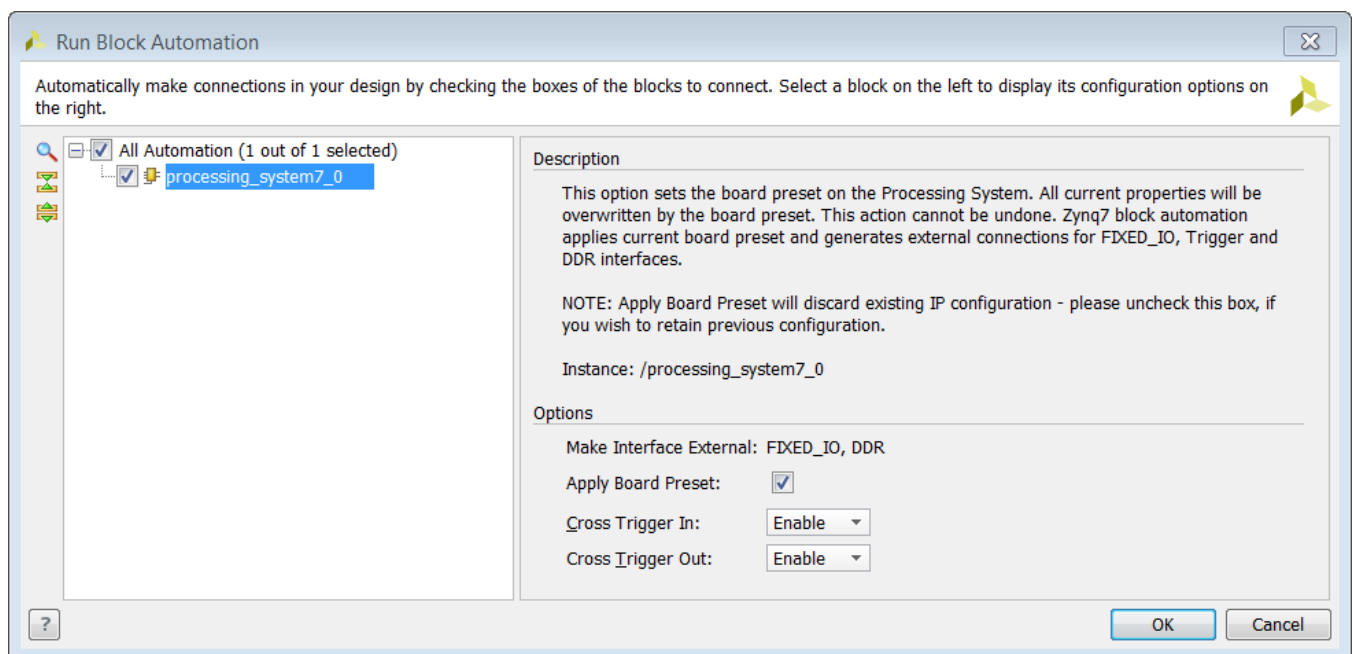

Figure 47: Run Block Automation Dialog Box
8. Enable the Cross Trigger In and Cross Trigger Out functionality by setting those fields to **Enable**, then click **OK**, as shown in Figure 47.